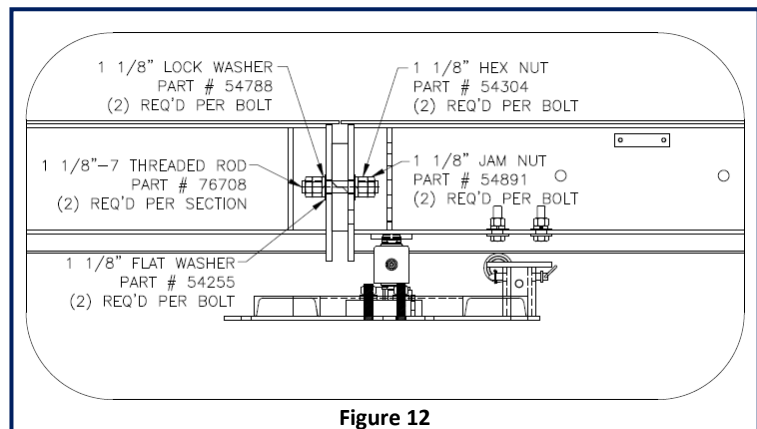

Figure 12
- Install module connection bolts. Insert the 1 1/8" – 7 threaded rod into the module connection gussets and secure with the flat washer, lock washer, hex nut and jam nut as indicated in the illustration. See Figure 12.